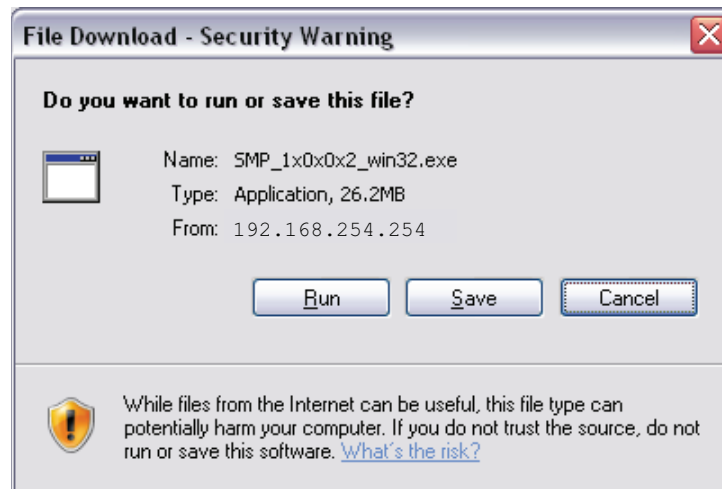

Figure 40. SMP Web Browser Plugin Installer
6. When the File Download dialog appears, click on **Run** to begin the installation (see figure 40).